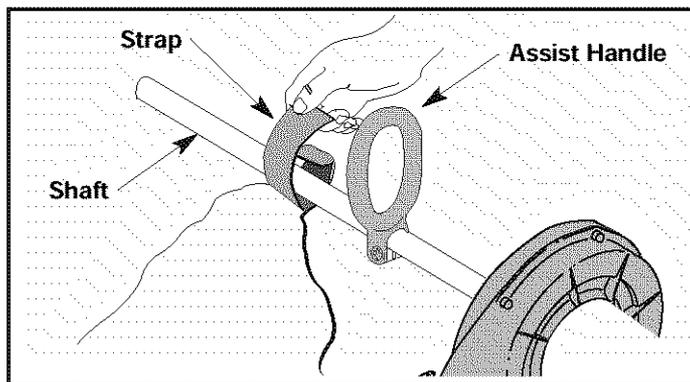

Fig. 2
4. Fasten the strap to the shaft above the assist handle, located on the powerhead. (Fig. 2)